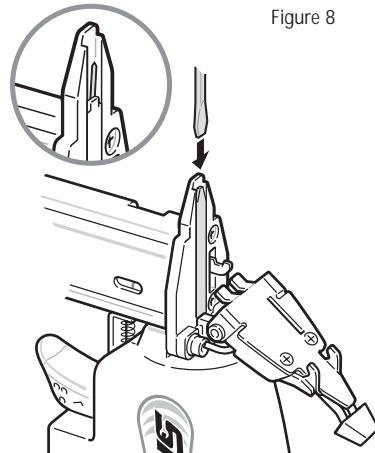

Figure 8
5. If necessary, insert a flat-blade screwdriver so that it touches the tip of the driver blade. See Figure 8. Tap the screwdriver with a hammer. The screwdriver will push the driver blade back, freeing the jam.